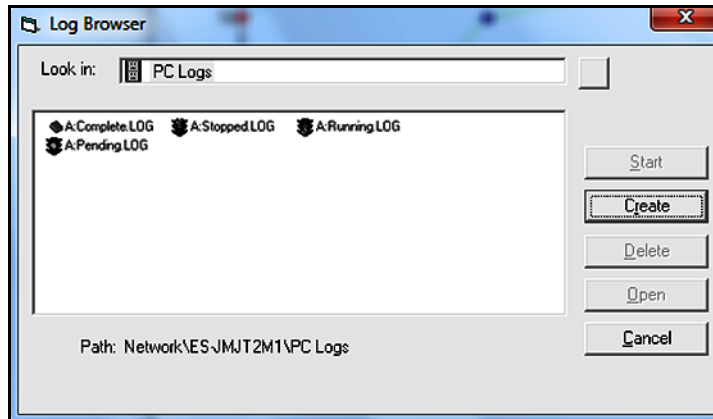

Figure 84: Selecting a Log File
2. Advance to either the “PC Logs” or “Meter Logs” dialog box as described in previous sections. Using a meter log as an example, a screen similar to that shown in *Figure 84* below opens.
Note that each of the log files in *Figure 84* above has a traffic light icon or a book icon next to its name. These icons indicate the current status of the log as follows:
- **Book** - The log has run to its specified stop time and is complete (see **A:Complete.LOG** in *Figure 84* above).
- **Red Light** - The log has not run to its specified stop time but has been manually stopped (see **A:Stopped.LOG** in *Figure 84* above).
- **Yellow Light** - The log has been set up but the specified start time has not yet been reached (see **A:Pending.LOG** in *Figure 84* above).
- **Green Light** - The log is currently running but is not yet complete (see **A:Running.LOG** in *Figure 84* above).